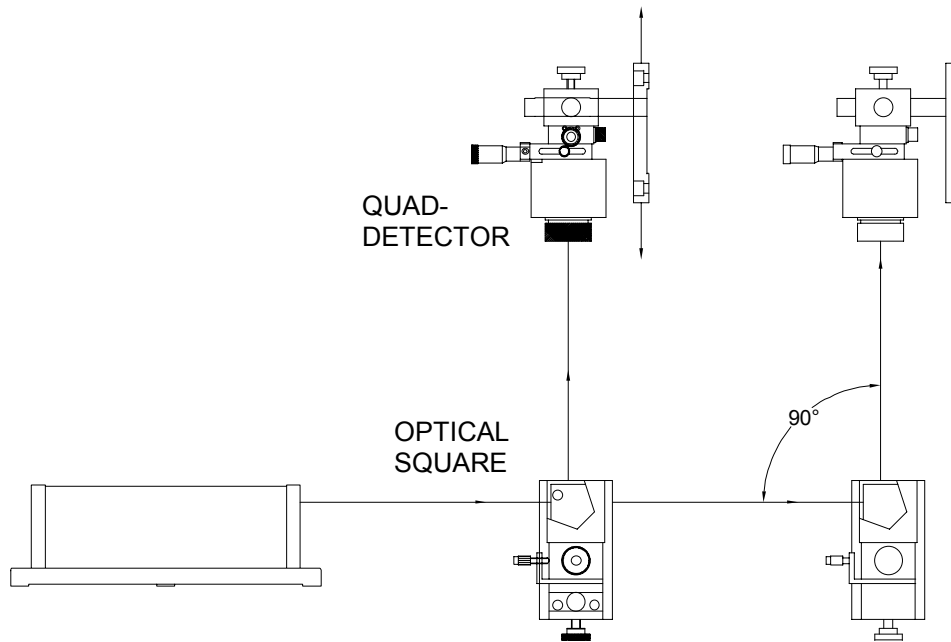

FIG. 10-6 PARALLELISM MEASUREMENT SETUP
6. A parallelism measurement consists of two parallel straightness measurements made from the same laser beam. Parallelism is achieved by using an optical square at two different locations as shown in Fig. 10-6. Parallelism is calculated by comparing the slopes of the two straightness measurements.
1. Use an optical square to generate parallel reference lines as shown in Fig. 10-6.